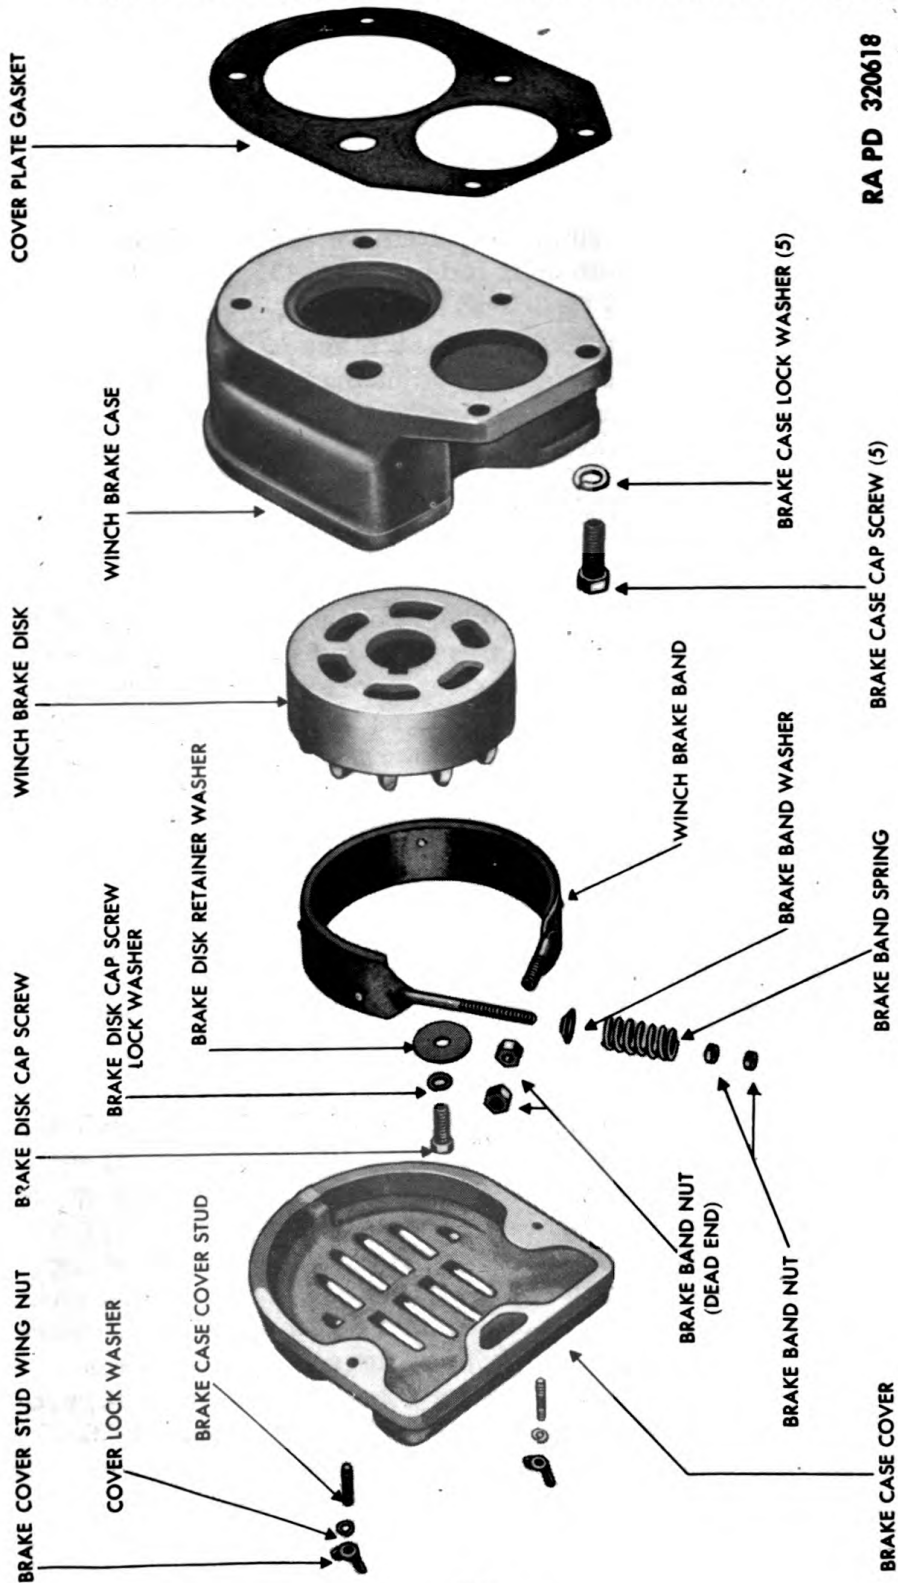
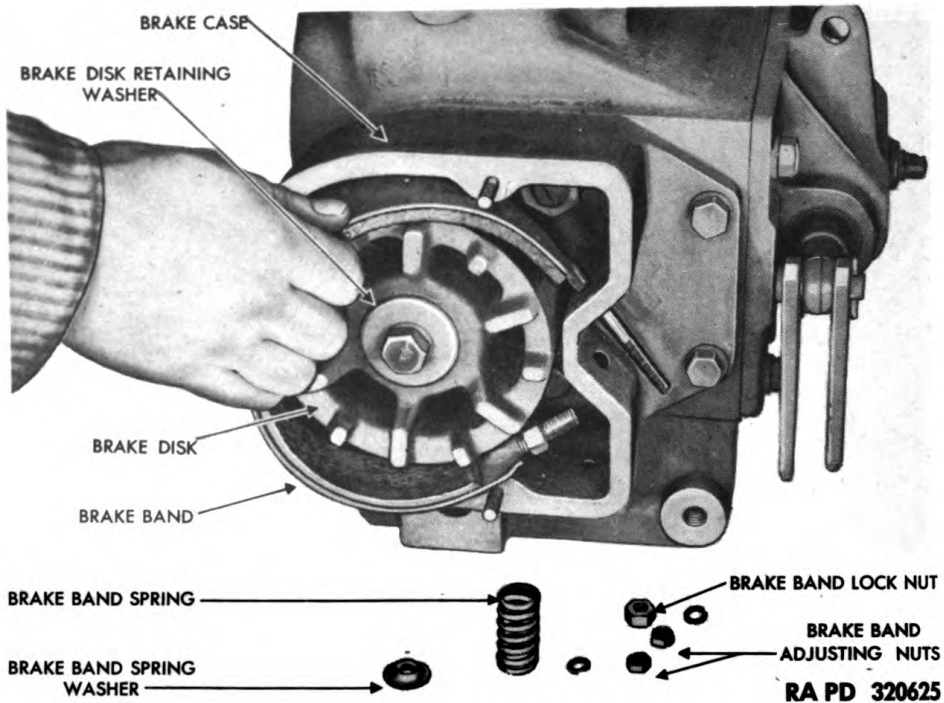

Figure 57 – Gear Case Brake Case – Disassembled
Figure 64 — Installing Gear Case Brake Band
d. Disassemble Brake Case. Remove two wing nuts and lock washers securing brake case cover to the brake case, and lift off the cover. Remove the brake band end adjusting nut and lock nut, and lift off the brake band spring and washer (fig. 57). Remove outer brake band anchor nut, and drive anchor end of the brake band into the brake case. Then lift the closed end of the brake band off the disk, tilt the band up, and pull the band free of the brake case (fig. 64). Remove the brake disk retaining cap screw, lock washer and retaining washer from the end of the drum shaft. Replace the cap screw to form a puller screw base. Position puller 41-P-2905-60 back of the brake disk, and with this base under the puller screw to prevent damaging the retainer cap screw threads, pull the disk off the shaft. Remove five $\frac{7}{16}$ -inch cap screws and lock washers, the blanking stud nut and lock washer, and tap brake case off gear case (fig. 58).
washers securing the gear case to the brake case, and slide the shim stock from between the oil seal and worm. Install the blanking stud lock washer and nut (fig. 58). Install worm brake disk key, and drive disk onto the worm until it shoulders on the shaft. Install the disk retaining washer lock washer and 1/2-inch disk retaining cap screw. Set the brake band anchor and adjusting ends through the gear case cover, and slide the band over the disk (fig. 64). Install the adjusting spring, spring washer, and adjusting nuts. Install the brake band anchor nut. Install the brake case cover, lock washers, and wing nuts.